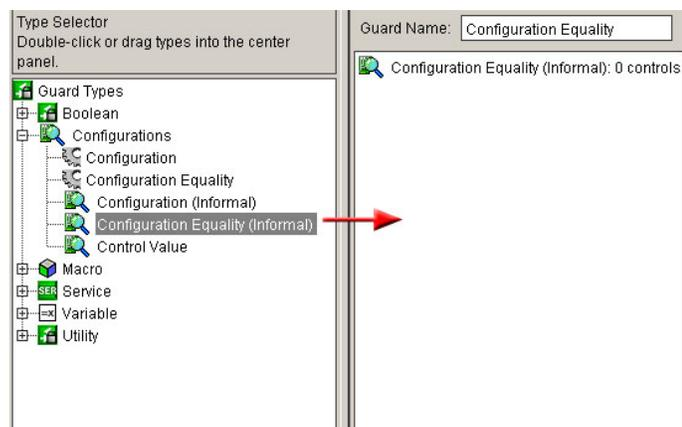

Figure 4-10: Adding the Configuration Equality (Informal)
1. To create a Configuration Equality Informal, select the Configuration Equality (Informal) component and drag and drop it into the middle column. Figure 4-10 displays the Guard Contents column with an item in it.